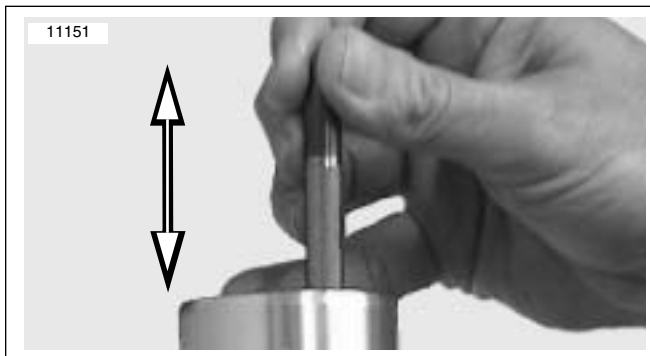

Figure 2-134. Pump Cartridge
15. See Figure 2-134. Slowly pump cartridge 8 to 10 times to exhaust air from assembly.